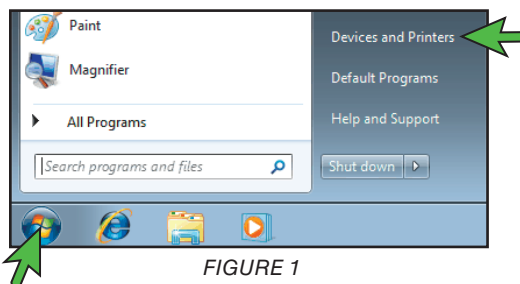

FIGURE 1
1. To view the ChromaBlast-R Driver configuration settings, click your start icon and select **Devices and Printers** (see *FIGURE 1*). If you are using an older version of WINDOWS, you will instead select **Printers and Faxes**.